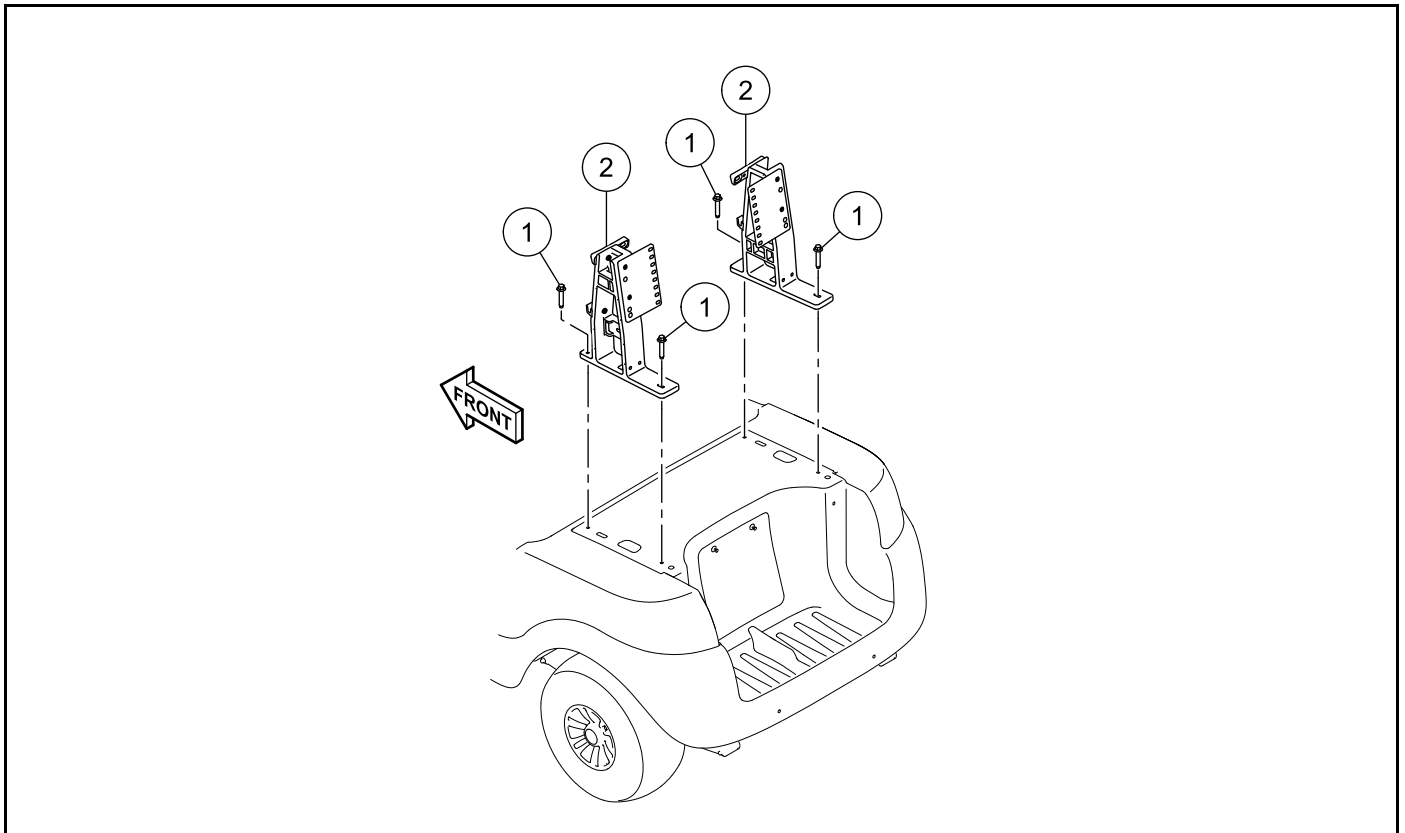

Figure 4-63 Seat Supports (Lifted Four-Passenger Vehicles)
3. Remove the screws (1) (**Figure 4-63, Page 4-65**).
4. Remove the seat supports (2) from the vehicle.
1. Put the seat supports (2) into position on the vehicle.
2. Install the screws (1). Tighten the screws to 71 lb-in (8 N·m) (**Figure 4-63, Page 4-65**).